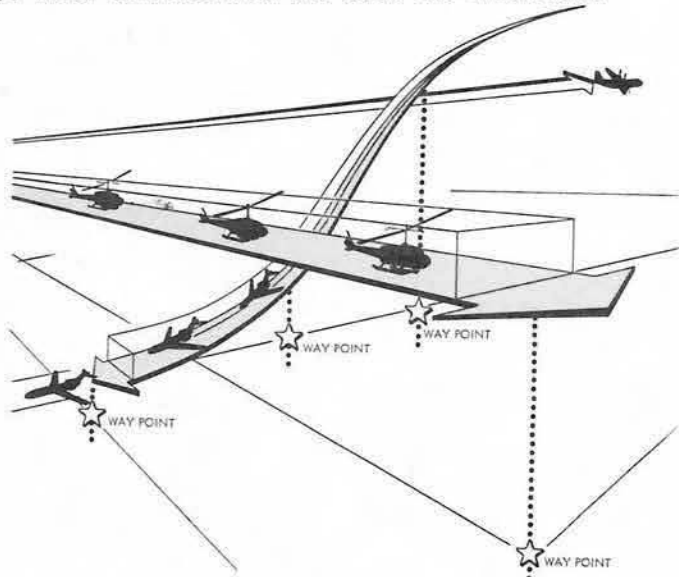

FIGURE 8. THREE-DIMENSIONAL AREA NAVIGATION
IS VERTICAL GUIDANCE POSSIBLE WITH AREA NAVIGATION? Yes. For example, one manufacturer has designed an Ascent-Descent Director (ADD), which combined with the basic two-dimensional (lateral and longitudinal) Area Navigation system, provides vertical guidance information similar to a glide slope. With this device, a waypoint can be selected not only at a desired surface location but also at a desired altitude. Thus, the pilot can select and fly a pre-determined vertical profile to a pre-selected point in space. Among the benefits which ATC will derive from three-dimensional Area Navigation is the ability to: (1) establish precisely controlled "overpasses," "underpasses," and "corridors"; (2) call for pre-defined points in space at which the pilot can arrive at a specific altitude. Pilots will be able to: (1) fly pre-organized ascent and descent profiles in terminal areas as specified by SIDs and STARs; (2) create and accurately follow a computed variable glide slope for approaches. Figure 8 shows how aircraft having widely differing performance characteristics can be separated in three-dimensional corridors in or near a terminal area.